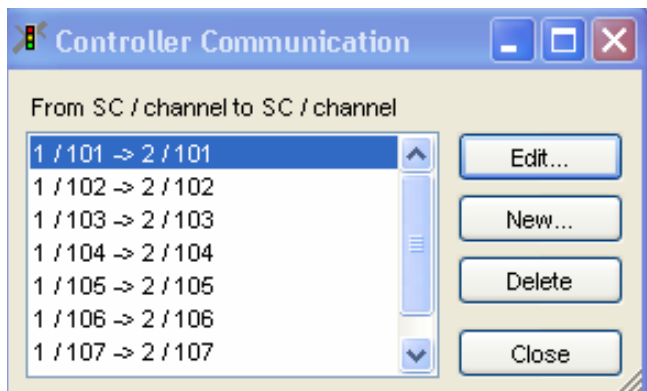

Figure 19, Controller communication window.
- “SCJ-Channel-ID”: the signal control communication channel specified as the channel number for signal controller 1 in the “Controller Communication” window (see Figure 19). In order to activate this window, you can click “Signal Control” in the VISSIM main menu, then click “Communication” in the pull-down menu.